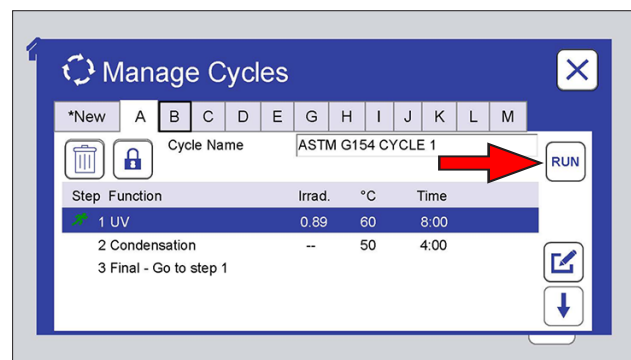
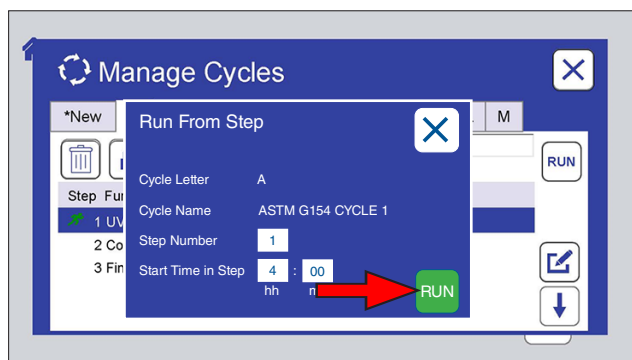

Figure 11.6.8a: A cycle can be run from a specified time in one of its steps. Select the step, then touch the Run icon.
Figure 11.6.8d: Touch the Run icon to run the step from the time entered.
- o Run a cycle from any of its steps (Figure 11.6.8a through Figure 11.6.8d).
- The QUV main controller can store thirteen (13) test cycles.
- A test cycle can consist of up to twenty-five (25) steps.